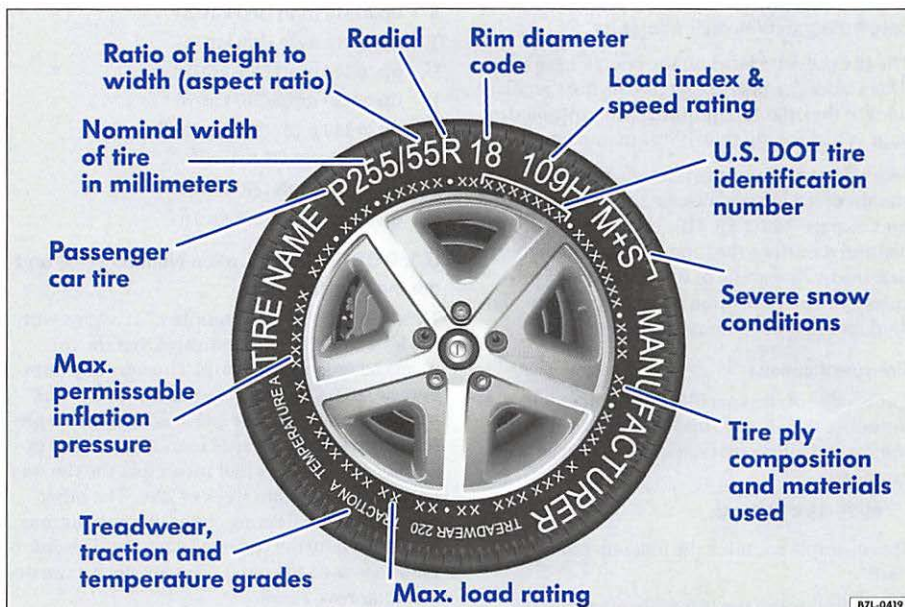

Fig. 19 Tire specification codes on the sidewall of a tire
– Check the tire sidewall (⇒ page 73, fig. 19) to determine the designated load rating for a specific tire. ◀
Federal law requires tire manufacturers to place standardized information on the sidewall of all tires $\Rightarrow$ page 73, **fig. 19**. This information identifies and describes the fundamental characteristics, the quality grade of the tire and also provides a tire identification number for safety standard certification and in case of a recall.
Quality grades can be found where applicable on the tire side wall between tread shoulder and maximum section width ⇒ page 73, fig. 19.